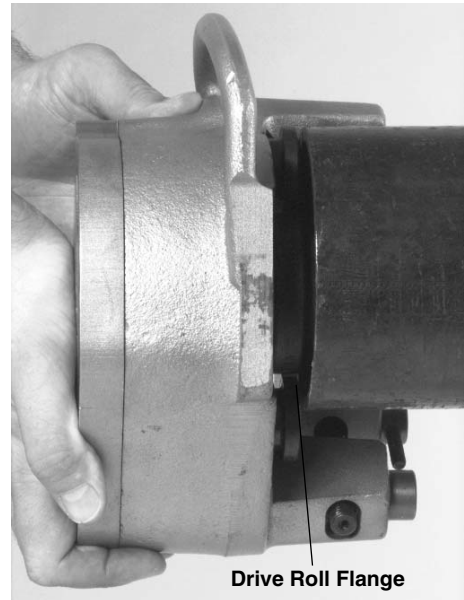

Figure 4 – Pipe Contact with Drive Roll Flange
3. Push 915 into pipe/tube until fully engaged. End of pipe should contact the drive roll flange (Figure 4).